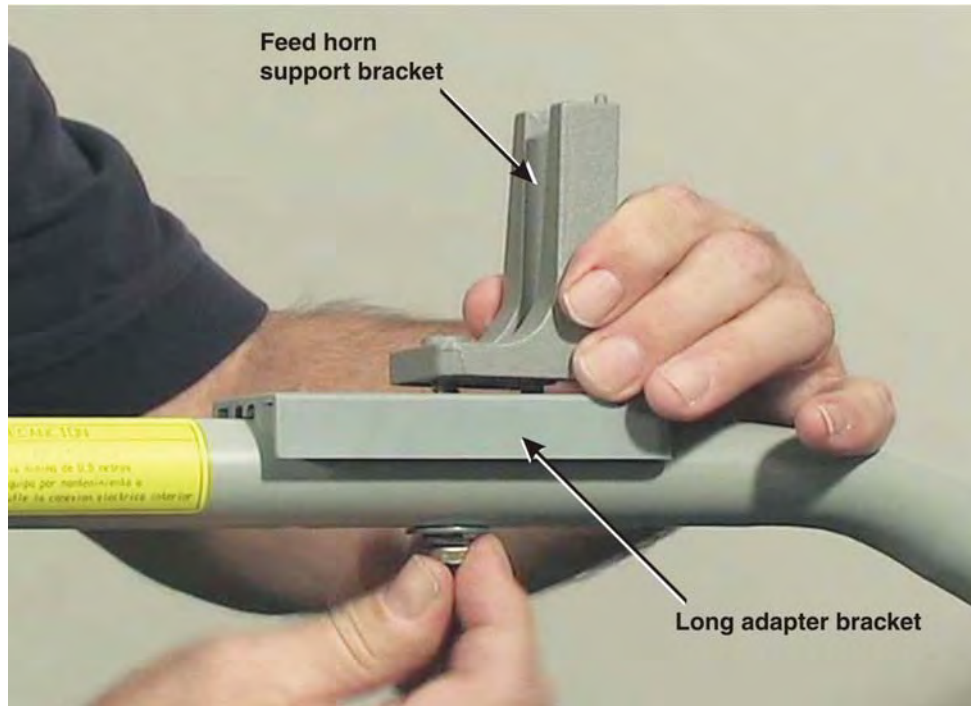

Figure 14: Positioning the radio and feed horn brackets
3. Position the feed horn support bracket above the long adapter bracket on the feed support arm as shown in Figure 14.